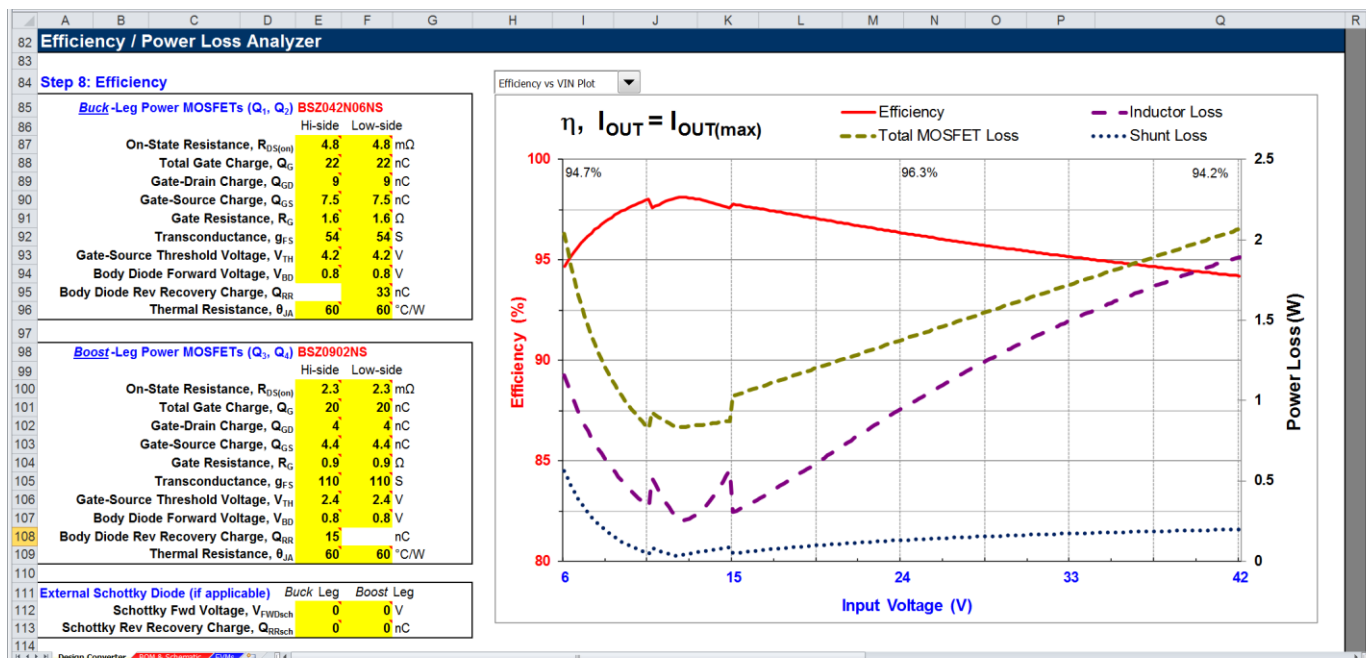

Fig. 5. Step 8 refers to MOSFET specification, efficiency plots, and power loss analysis.
Step 8, shown in Fig. 5, provides plots of efficiency and component power dissipations versus line and load. Characterization of all four power MOSFETs centers around on-state resistance, gate charges, gate resistance, transconductance, gate-source threshold voltage, and body diode forward drop and reverse-recovery charge parameters. Sure, the inductor current runs higher in boost than in buck, but the boost-leg MOSFETs rated for  $V_{OUT}$  generally have lower  $R_{DS(ON)}$  than the buck-leg devices rated for maximum  $V_{IN}$ .